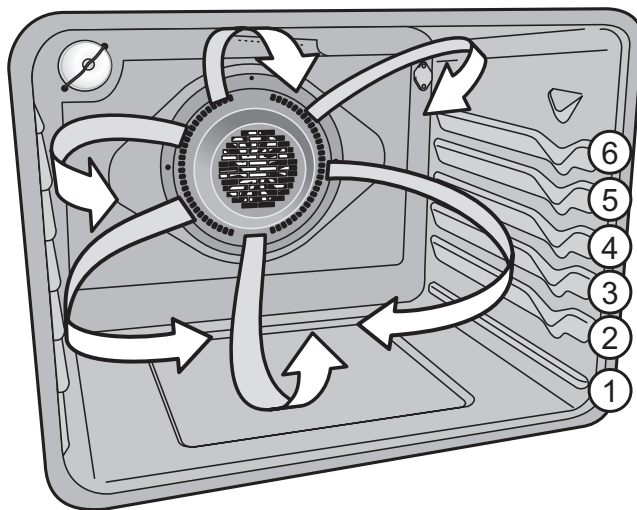

Figure 14: Rack positions
- When baking cakes using two oven racks place bakeware in positions 3 and 5 and place bakeware as shown in Figure 14.